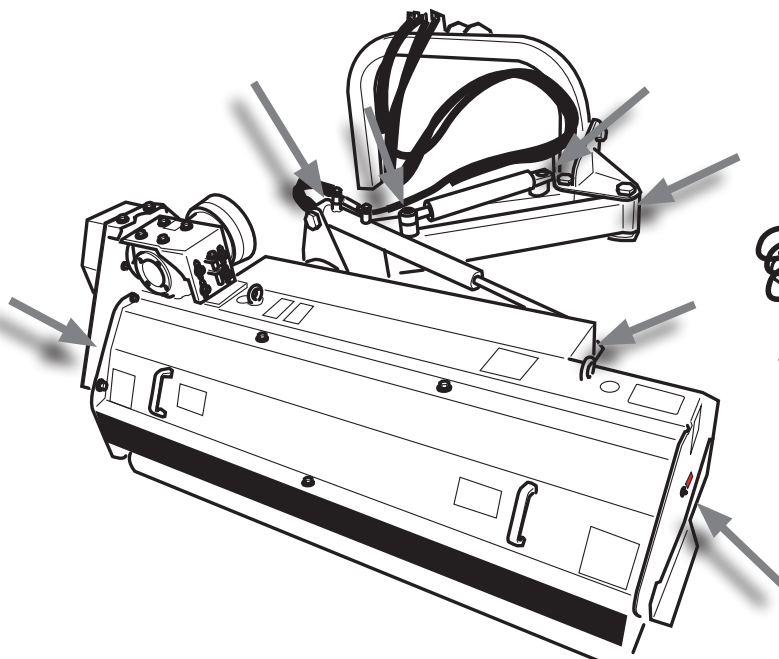

Fig. 40
2) Grease the rotor supports for knives or hammers approximately every 100 hours, using the dedicated grease nipples (Fig. 40).
3) Grease approximately every 100 hours, using the dedicated grease nipples, the supports of the rear roller, the articulation and movement points of the machine (Fig. 40).